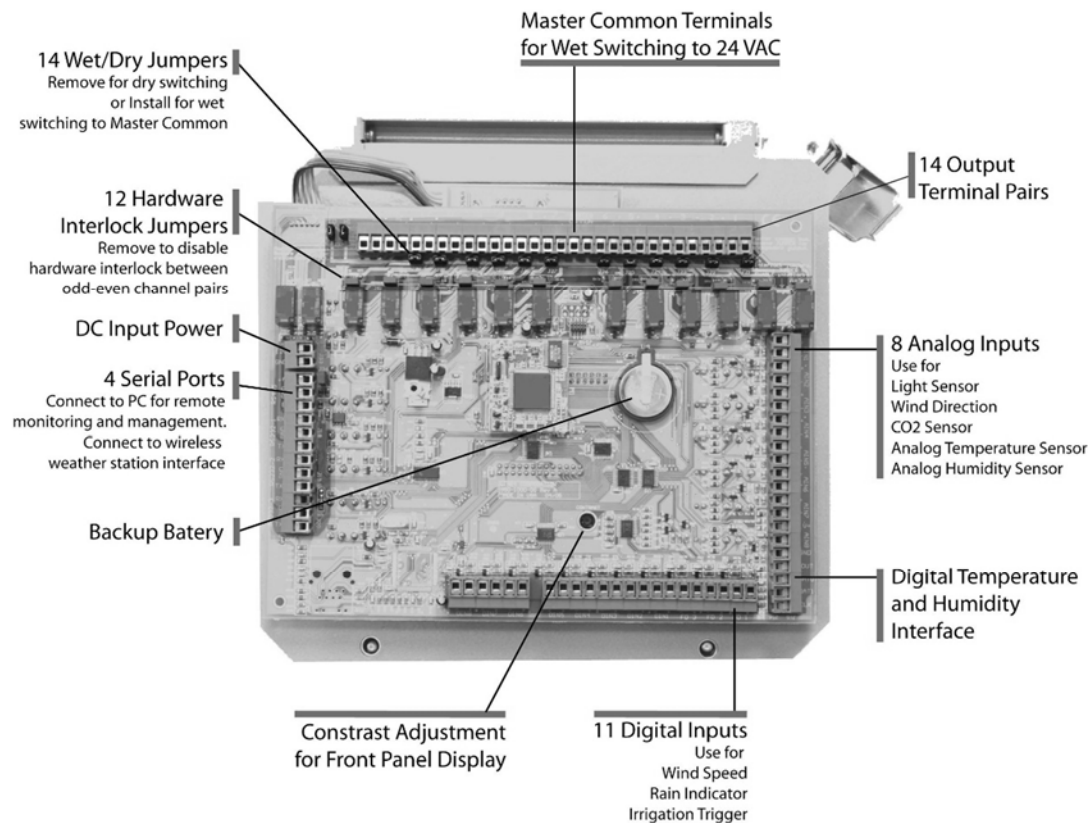

Figure 4.6 Internal Layout of the iGrow 1200™ PCB
Figure 4.6 shows how the iGrow 1200™ looks on the inside. Take notice of the board and familiarize yourself with the internal layout before beginning the wiring process.
6. Locate the DC Input Power terminal along the left edge of the PCB. See Figure 4.6 and Figure 4.7.